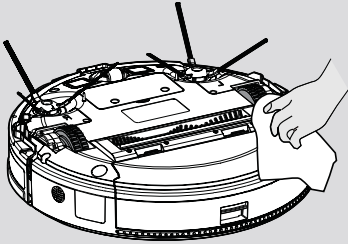

Fig. 22
3. Clean the wheels with a dry cloth. [Fig. 22]